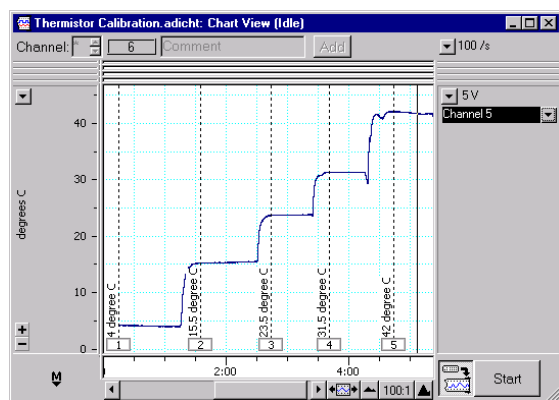

Figure 6. The Chart View showing the result of the calibration.
- Finally, click OK to apply the calibration to the raw data. The calibrated data is displayed in the Chart View (Figure 6).